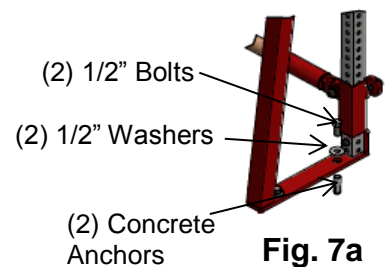

Fig. 7a
Mark the holes, drill and fasten down the base (see **Fig.7a**).
3. Fasten down the **Upright Assembly** using the supplied bolts and washers (see **Fig. 7a**).